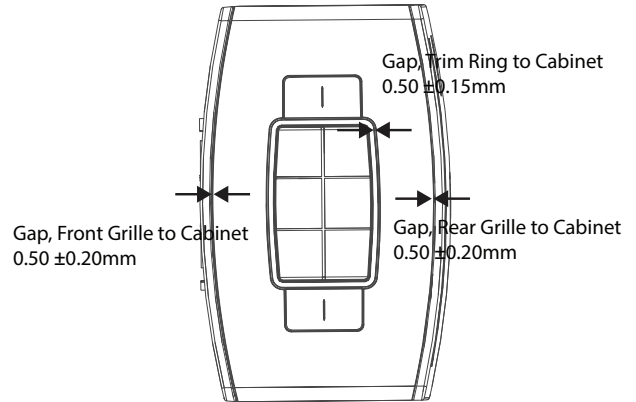

Figure 37. Enclosure, Gaps Spec Top View
6.1 Figure 37. Align the keypad assembly with the cabinet and then press down on the center of the keypad rubber. A roller can be used to ensure the keypad rubber seats properly. See Figure 37, for assembly tolerances.